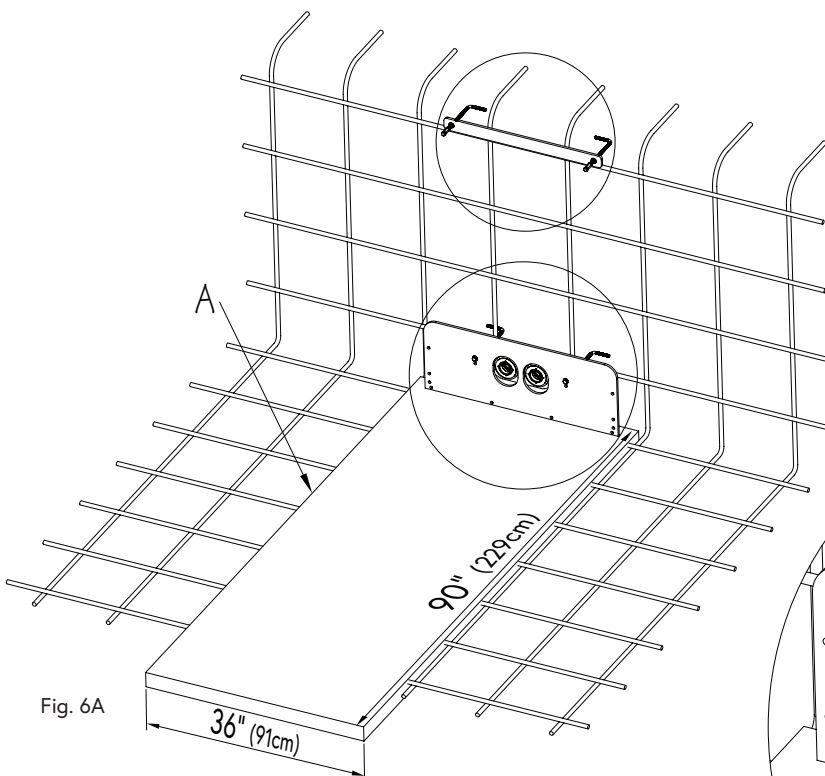

Fig. 6A
4. To ensure the Fastlane® Tread Mounting Kit is positioned at the correct height, it is recommended to pour a level concrete slab (A) in front of the wall in which the Fastlane Tread will be mounted. This will serve as the finished floor (Fig. 6A).